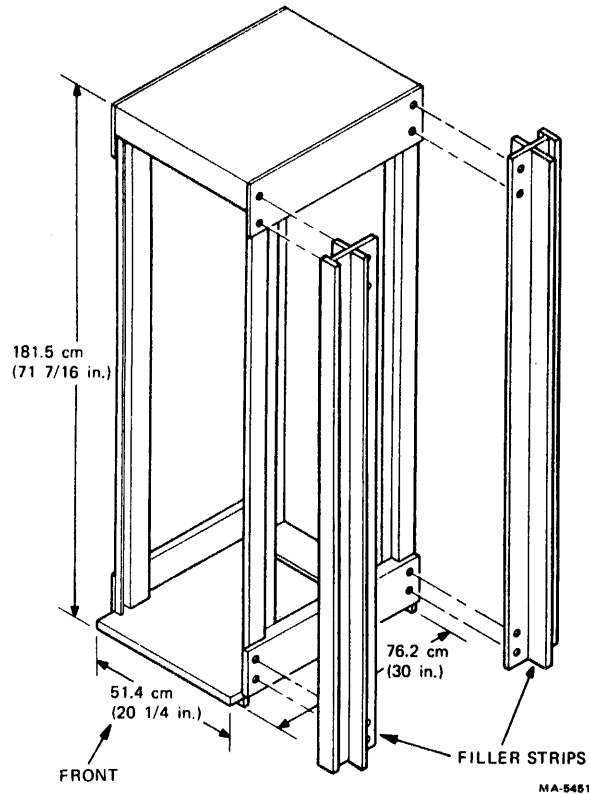

Figure 2-6 H960 Cabinet Filler Strips
4. When this cabinet is bolted to another H960 cabinet, install filler strips (Filler Strip Set, PN H952-GA) between the cabinets as shown in Figure 2-6. Make sure that the notched strip is mounted at the cabinet fronts. Tighten the bolts that secure the cabinets together and then re-check to ensure that the cabinets are level.